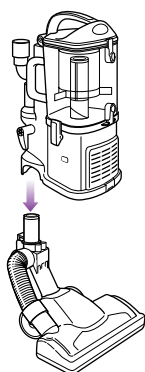

Fig. 8
- 2 Align the tube of the floor nozzle with the tube on the detachable canister and lower until you hear the two pieces click into place. **(Fig. 8)**
- 1 Separate the detachable canister from the floor nozzle. (See page 7, Fig. 8.)